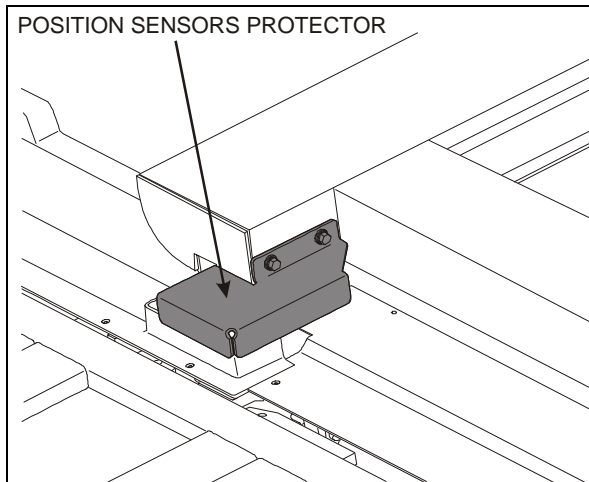

FIGURE 9: SLIDE-OUT POSITION SENSORS PROTECTOR
7. Unscrew and remove the position sensors protector (figure 9).